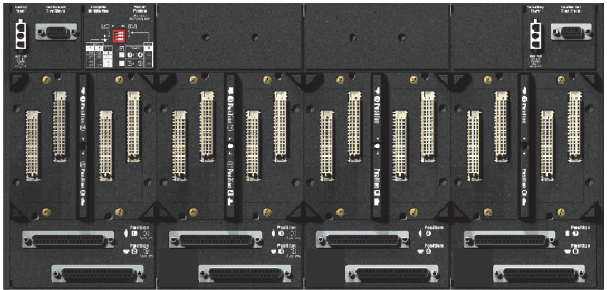

Figure 1. Horizontal DIN Rail Mounted 200 Series Baseplates
Most 200 Series baseplates are available in two basic mounting configurations — horizontal DIN rail mount (see Figure 1) or vertical DIN rail mount (see
## FCP270 Only 2-Position Modular Baseplates (see Figure 1 and Figure 2)
**FCM/FBM 2-Position Modular Baseplates (see Figure 1 and Figure 2)**
**FCP270 and FBM 4-Position Modular Baseplates (see Figure 1 and Figure 2)**
**Single FCP270 and FBM 4-Position Modular Baseplates (see Figure 1 and Figure 2)**
**FBM and/or FCM 4-Position Modular Baseplates (see Figure 1 and Figure 2)**
**8-Position Modular Baseplates (see Figure 1 and Figure 2)**